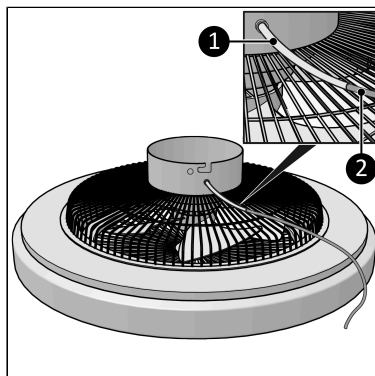

Figure 26.
1. Place the end of the extension cord (Figure 26, pos. 2) through the protection sleeve, (Figure 26, pos. 1) through the hole of the fan base.